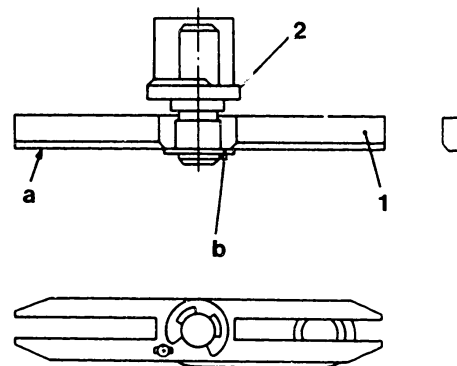

Fig. 123 Fitting the floating lever
6. Fit the floating lever to the supporting lever, with the chamfered fork-groove of the floating lever facing down. (Fig. 123)